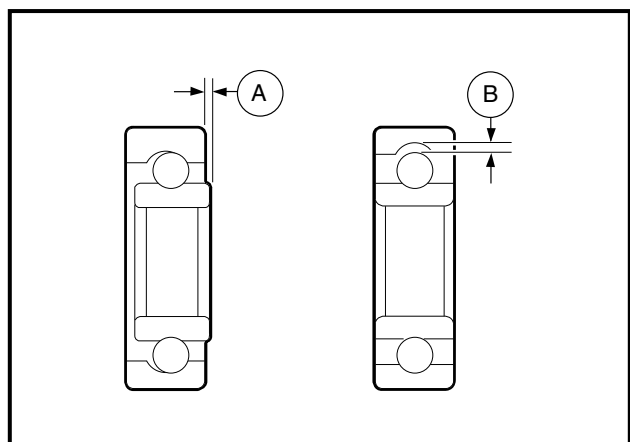

Figure 7-25 Inspect Bearings
2. Inspect all bearings by spinning them by hand. Check the bearings for excessive axial (A) and radial (B) play (**Figure 7-25, Page 7-14**). Replace bearings if they do not spin smoothly, if they are noisy, or if they have excessive play. Replace bearings if they are rusted, worn, cracked, pitted or discolored.